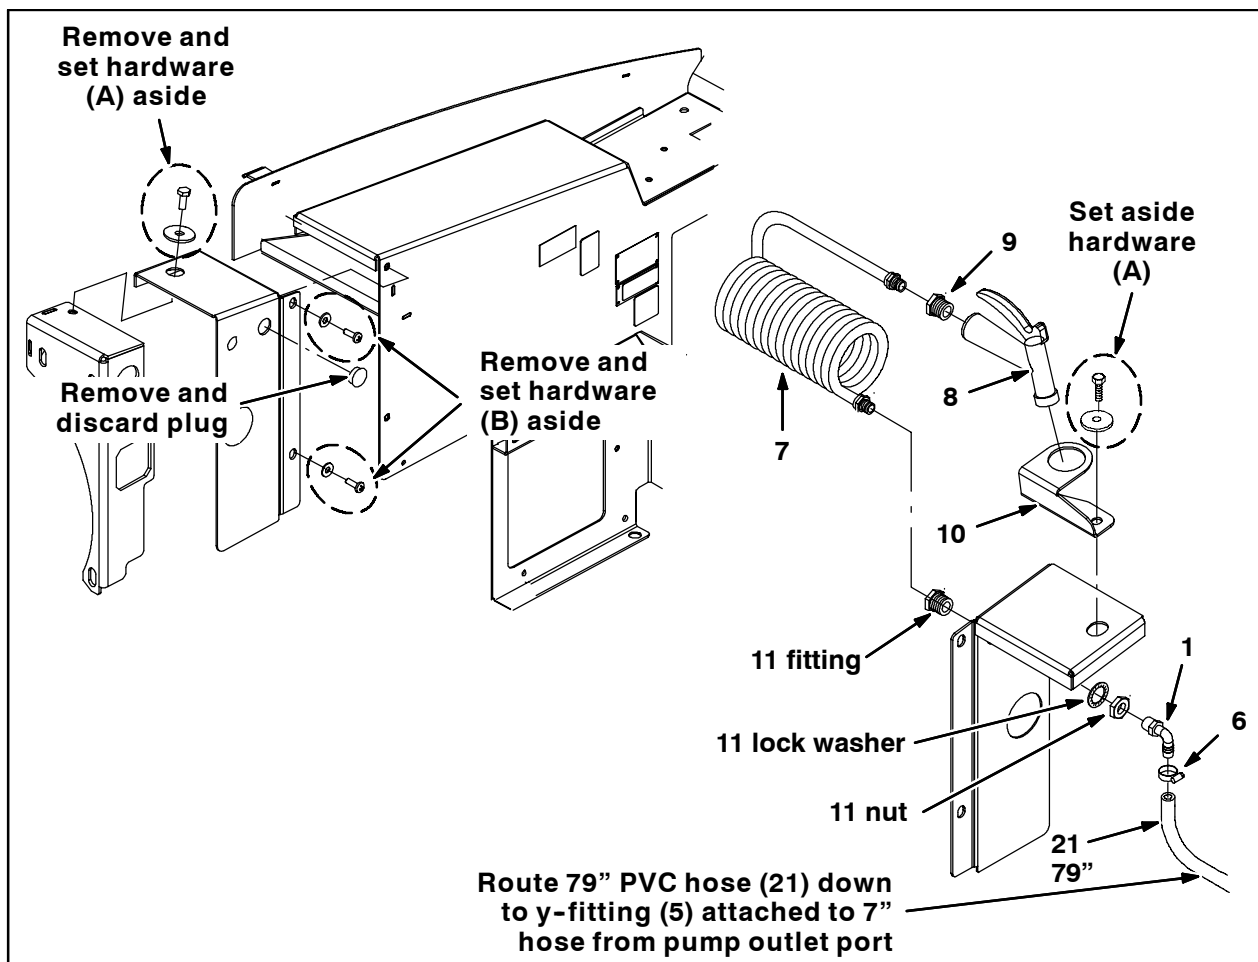

FIG. 2
4. Remove the panel from the rear corner of the operator compartment. Set the panel and hardware (A) and (B) aside. Refer to Fig. 2.
5. Remove the plug from the panel removed from the machine in the previous step. Discard the plug. Refer to Fig. 2.
6. Remove the lock washer and nut from straight fitting (11) and use the lock washer and nut to install the straight fitting into the rear of the operator compartment where the plug was previously located. Refer to Fig. 2.
7. Apply sealant onto the threads of the 90° plastic fitting (1) and install the fitting into the straight fitting (11) installed in the rear of the operator compartment. Refer to Fig. 2.
8. Use a hose clamp (6) to connect the PVC hose (21) to the 90° plastic fitting (1) installed in the previous step. Refer to Fig. 2.
9. Route the PVC hose (21) down to the y-fitting (5) connected to the 7" hose from the pump outlet port. Refer to Fig. 2.
10. Cut excess length from the PVC hose (21) and use a hose clamp (6) to connect the PVC hose to the y-fitting (5). Refer to Fig. 2.
11. Apply sealant onto the threads at one end of the coiled water hose (7) and install the hose into the straight fitting (11) installed in the rear of the operator compartment. Refer to Fig. 2.
12. Use hardware (B) to reinstall the panel into the rear corner of the operator compartment. Refer to Fig. 2.
13. Use hardware (A) to install the spray handle mounting bracket (10) onto the panel reinstalled in the previous step. Refer to Fig. 2.
14. Thread the straight brass fitting (9) into the spray gun (8). Refer to Fig. 2.
15. Apply sealant onto the threads at the other end of the coiled water hose (7) and thread the spray gun (8), with brass fitting already installed (9), onto the coiled water hose. Refer to Fig. 2.